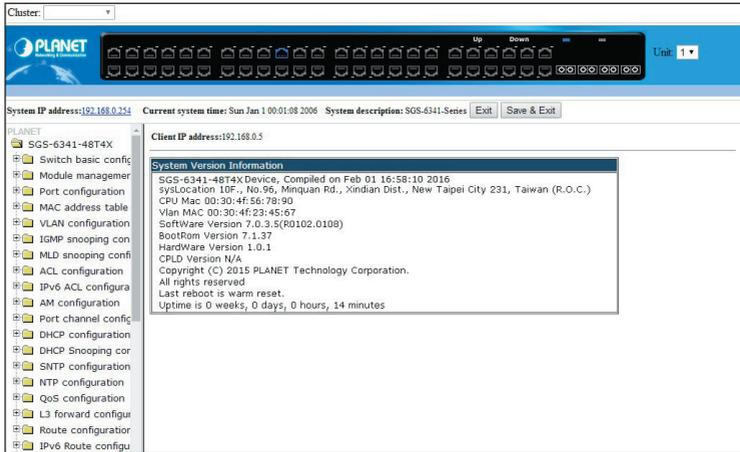

Figure 5-3 Web Main Screen of Managed Switch
3. After entering the password, the main screen appears as shown in Figure 5-3.